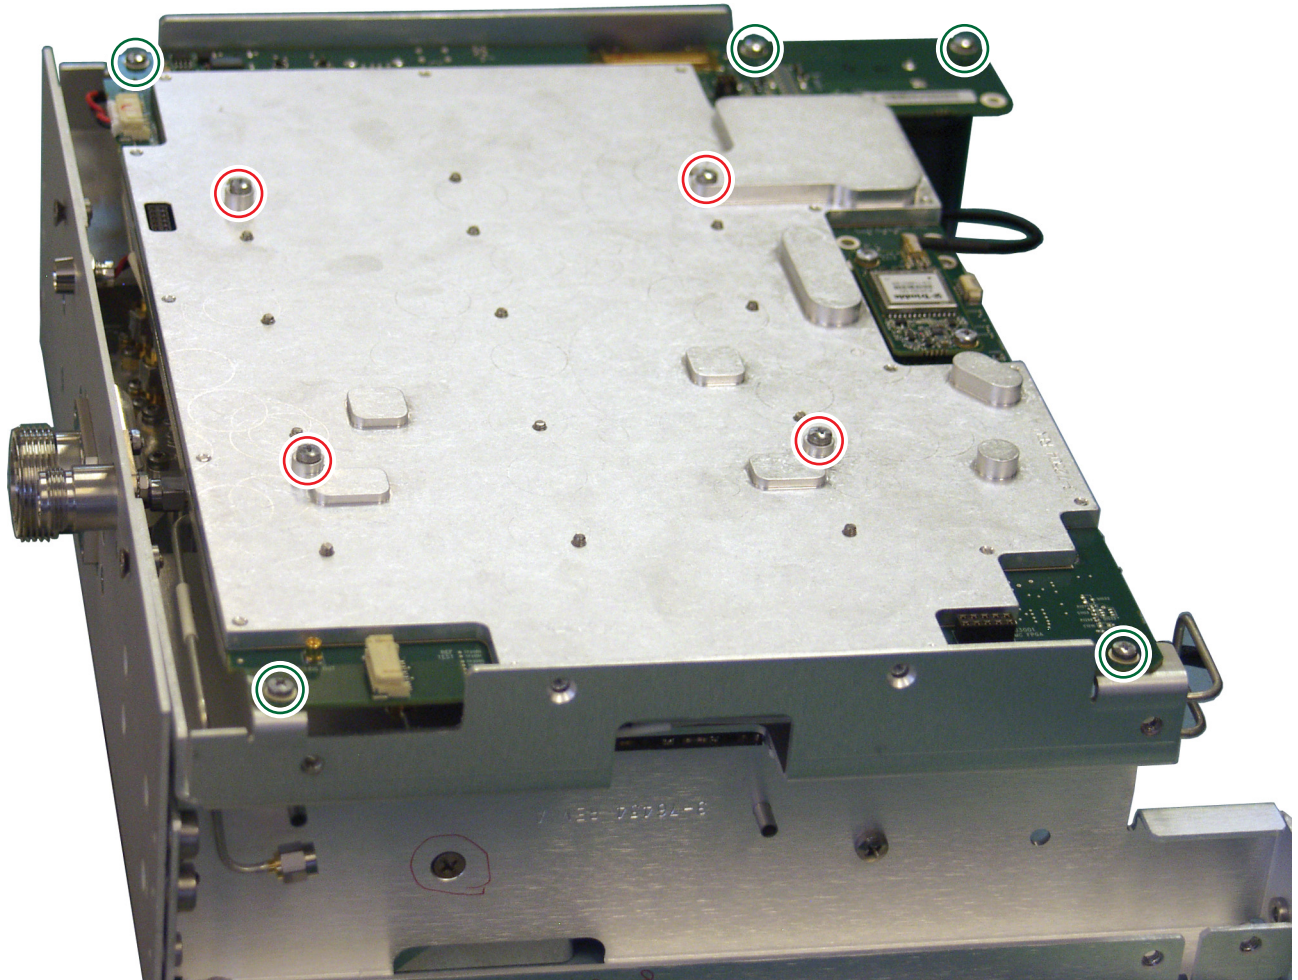

Figure 5-37. Remove and Replace Motherboard
14. Remove the five M3 x 6 screws on the perimeter (shown in Green) holding the motherboard to the chassis and the four M3 x 35 mm (shown in Red) holding the motherboard to the RF assembly (Figure 5-37). Also see Figure 5-10, “Main PCB Attachment” on page 5-12. Filter removal is not required if only the motherboard is being changed.